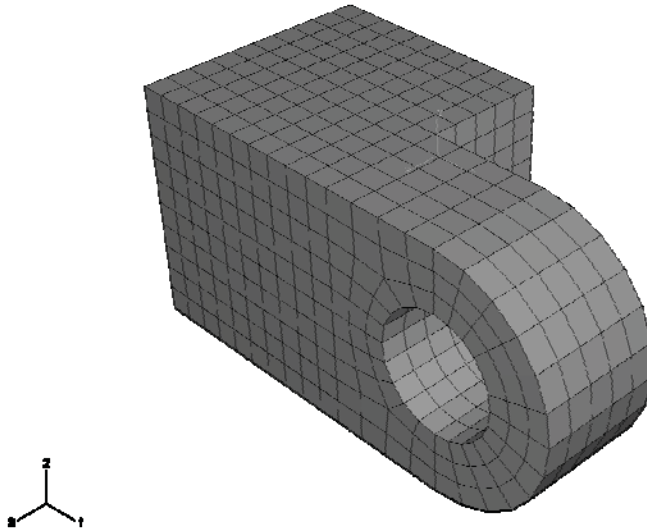

Figure 6–9 Mesh of the hinge.
2. Select the hinge, and click **Done** to indicate your selection is complete. The final mesh is illustrated in Figure 6–9.